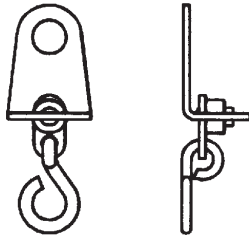

FIGURE 2-15
► The A-PC fusible link is designed to separate at a specific temperature, releasing tension from the fusible link line, causing system actuation. See Figure 2-15.